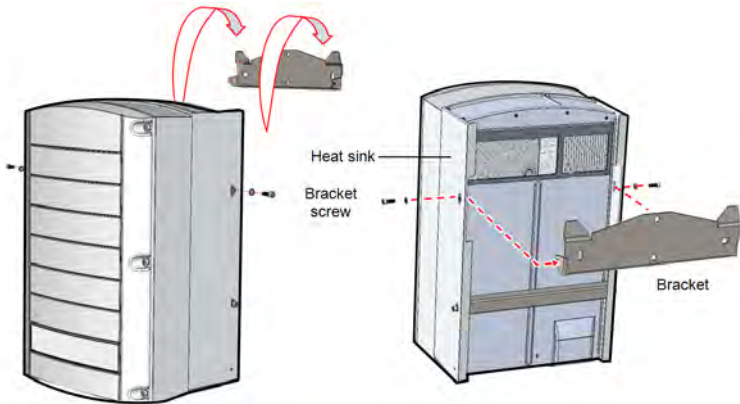

Figure 14: Hanging the Synergy Unit
- For the right or left Synergy Units, insert only one screw through the outer (exposed) side of the unit and into the bracket. Tighten the screws to a torque of 4.0 N*m (see *Figure 14*).